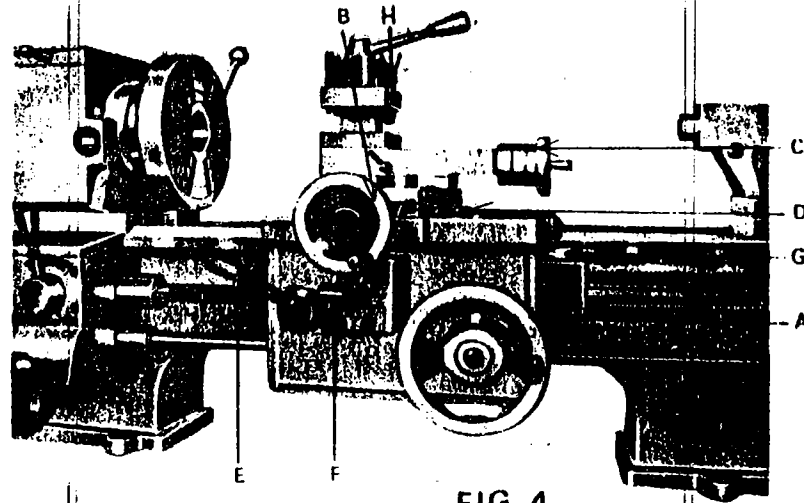

FIG. 4
Handwheel (A, Fig. 4) manually moves carriage along the lathe bed. Handwheel collar is graduated in 0.03
Cross handwheel (B Fig 4) moves the cross slide in and out. Micrometer dials fitted to cross slide in 0.01 graduations.
Tool post slide handwheel (C Fig 4) moves the tool post slide in and out. Handwheel Collar is graduated in 0.01
Carriage lock screw (D, Fig. 4) locks carriage to bed for facing or out off operations.
Half-nut lever (E, Fig. 4) engages half-nuts with lead screw for threading. When lever is moved down, it engages half-nuts with lead screw, carriage travels along bed as lead screw turns.
Longitudinal & Cross Feed Control Lever (F, Fig 4):
The threading dial (G, Fig 4) performs the important function of indicating the proper time to engage the half-nut lever so that tool will enter the same groove of the thread on each successive cut. To avoid excessive wear of threading dial gear, loosen clamp screw and swing gear away from lead screw when not threading.
4-Ways tool post (H, Fig 4) hold the cutting tools rigidly in positions for cutting operations. The cutting edge of the tools should be placed on lathe center line. To push the head of lever (I) in counterclockwise side for unlocking and to locate the tool post. To pull the head of lever in clockwise for locking it at the located position.
4. Loosen the outside bearing adjusting nut (G, Fig. 4) and tighten the inside bearing nut(H, Fig. 4) until spindle end play has been eliminated.